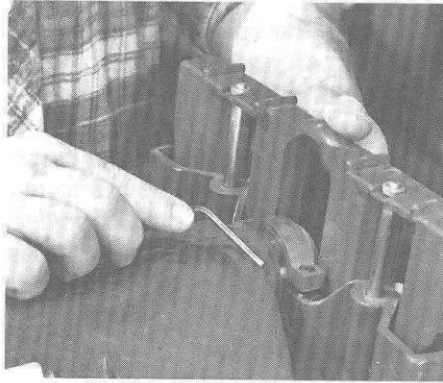

Figure 15. Place the lower saw guard on the quill, then tighten the Allen screws on either side of the saw guard collar.
3. Mount the lower saw guard on the quill so that the collar on the saw guard butts up against the stop collar on the quill. With a 5/32" Allen wrench, tighten the two screws on the collar. (See Figure 15.) Tighten each screw equally.